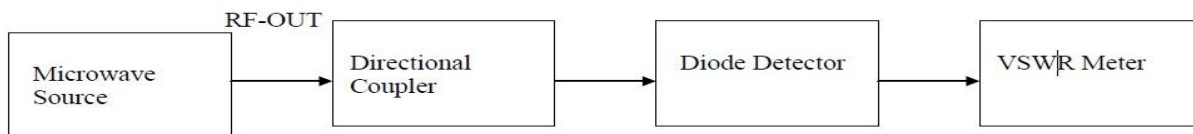

Fig. 2
4. Now experiment is setup as shown in fig.2.